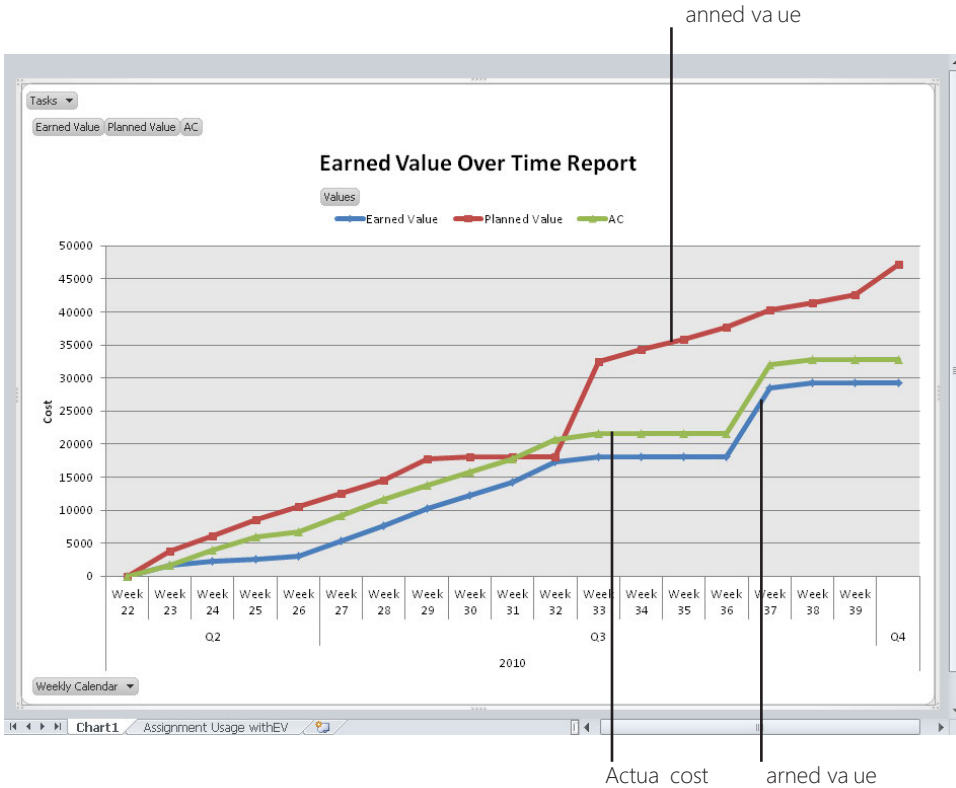

FIGURE 9-10 An earned value graph visually depicts the relationships among earned value, planned value, and actual cost, so you can easily identify trends.
An earned value graph is the best way to view earned value because you don't even have to see any numbers to know whether your project is on schedule and within budget. You'll typically see BCWS, ACWP, and BCWP compared, as shown in Figure 9-10. By plotting each measure over time, you quickly see how your project is doing compared to your planned schedule and budget. The *y*-axis in the earned value graph represents cost, whereas the *x*-axis shows time.
- The BCWS line (planned value) represents the amount of money you planned to spend over the course of the project, so it’s no surprise that it continues to rise throughout the project’s duration. As the BCWS line in Figure 9-10 illustrates, the budgeted cost increases until it reaches its planned budget (\$47,240) at the end of the project.
To see an example of an earned value visualization report, see Figure 9-10, on page 225